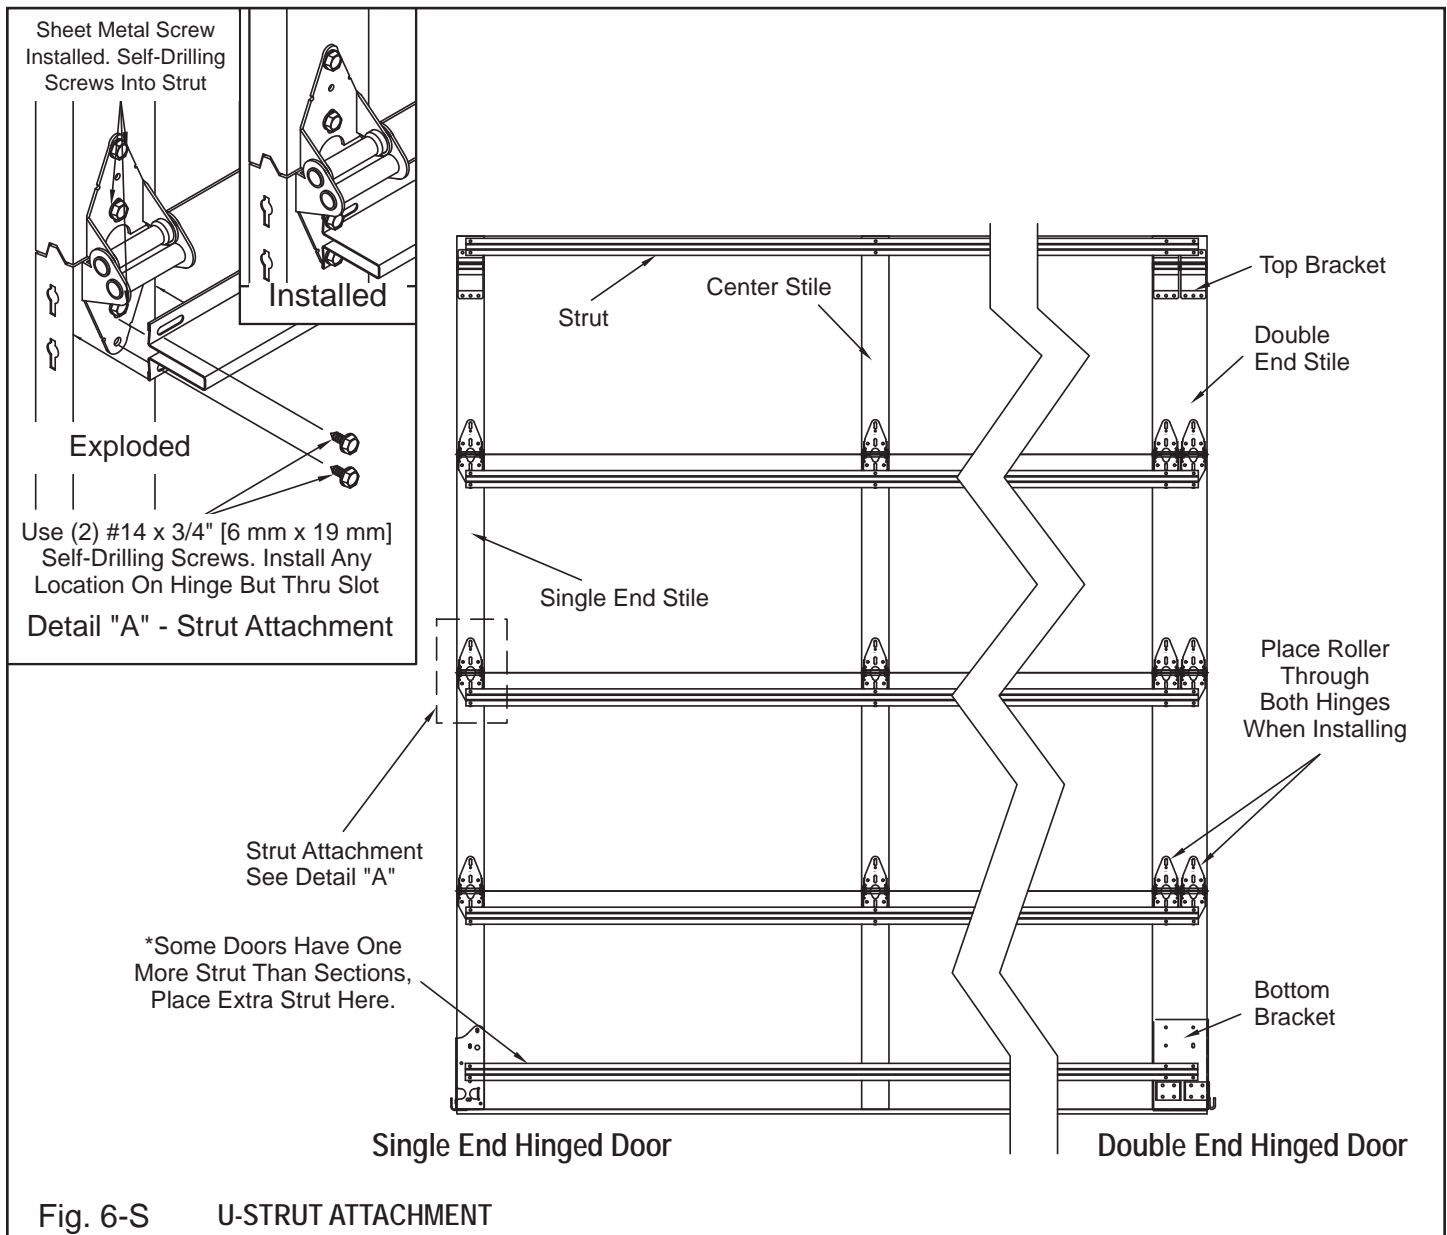

Fig. 6-S U-STRUT ATTACHMENT
With section face down on saw horses, place strut at the top of the sections and center it (Fig. 6-S).
Step 1: Horizontal track install. Horizontal track follows the pitch of the roof line. An extension angle is mounted, level, just above the radius of the track. Attach horizontal track to commercial flag bracket using two 1/4" x 5/8" [6 mm x 16 mm] track bolts and flange nuts. Attach extension angle to horizontal track using 3/8" x 1-1/4" [10 mm x 32 mm] slotted truss head bolt & nut. Attach extension angle to commercial flag bracket using a 3/8" x 3/4" [10 mm x 19 mm] carriage bolt & flange nut. Temporarily set back hangs for horizontal track or rig a temporary rope to support back of horizontal track.(Fig. 6-T)
Step 3: Spring Installation. Install end bearing plates as shown. (Fig. 6-T) Refer to "Spring Installation" for additional instruction.